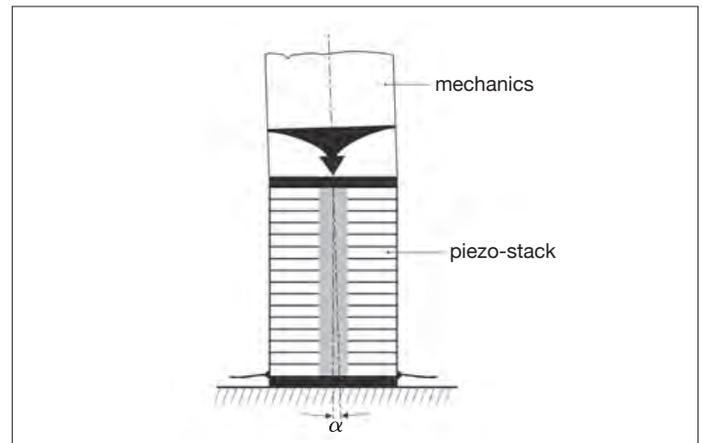

Fig.17a: Perfect plain-plain coupling of piezo-stack and attached mechanics by floating axis orientation of the mechanics. Acceptable tolerance α : See above
- The coupling face of the mechanics shall cover completely actuator's end faces to achieve maximum force transfer (Fig. 17a). The contact force shall be homogeneously distributed over the contact area.
- The resulting load force vector shall coincide with actuator's axis. Within a virtual cylinder of +/- 10% of actuator's cross-section (Fig. 17a) to avoid excessive bending and shear stress. Force misalignment tolerance α becomes more critical for increased ratios actuator length / diameter. For high dynamic operation, actuator's axis shall further hit the centre of mass of the attached mechanics to avoid dynamic torque.